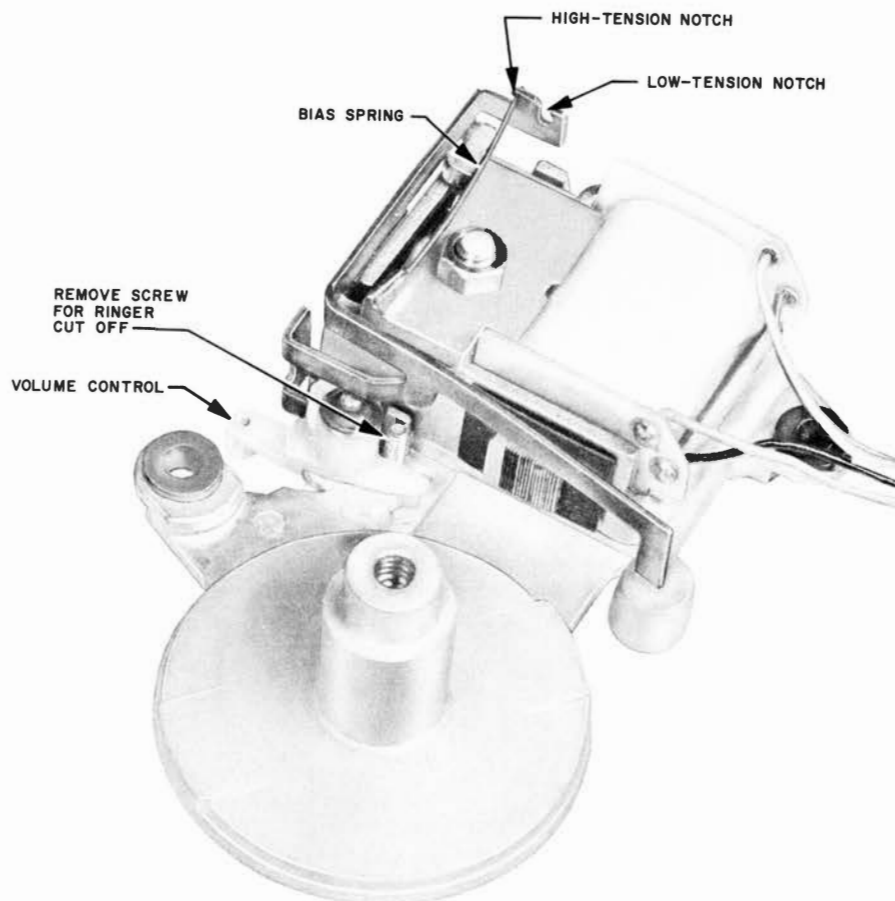

Fig. 11 - M1A Ringer, Gong and Resonator Removed
3.09 The 702-type telephone set is equipped with an M1A ringer. (See Fig. 10.) It has a single tapped winding arranged so the ringer can be used for bridged 2-party flat or message rate, and automatic ticketing service. It contains a single gong with a resonator and an adjustment arm. Fig. 11 shows the ringer with gong and resonator removed.